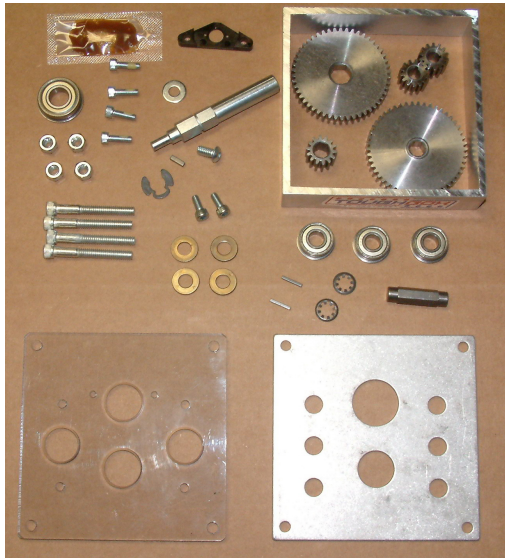

Fig. 1
Step 1: Ensure you have all parts listed in the Toughbox BOM and shown in Fig. 1.